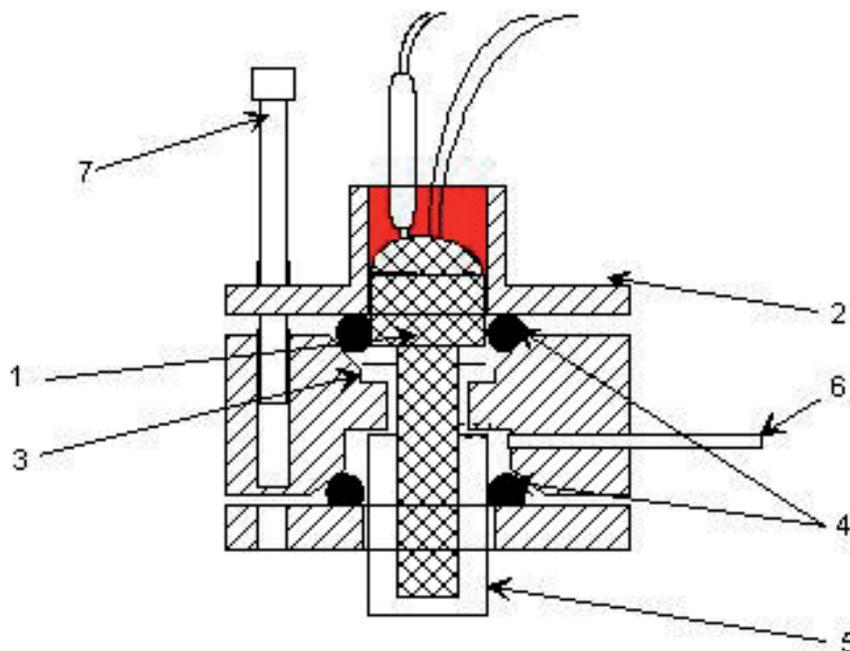

Figure 16 XZR500 MSRS Mounting Diagram
- Connect the MSRS and the cable according to the diagram (*Figure 16*).
- Re-insert the clean sealing head with the new MSRS (Ref 204 011) and new o-rings (Ref 108 006) (**CAUTION: the head of the MSRS (1) has to stop against the bearing of the sealing head body (3)**). (See *Figure 16*.)